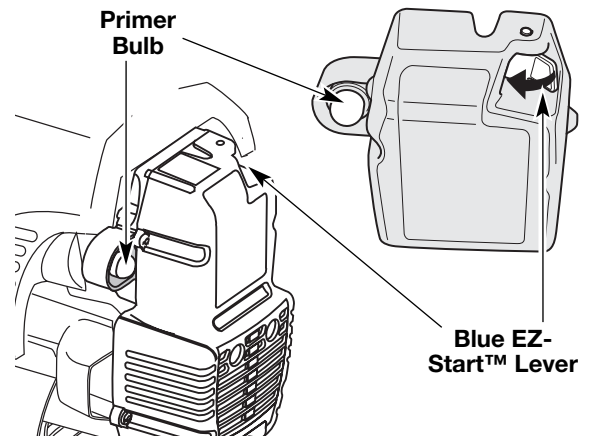

Fig. 10
3. Fully press and release the primer bulb 10 times, slowly. Some amount of **fuel should be visible in the primer bulb** and fuel lines (Fig. 10). If you can't see fuel in the bulb, press and release the bulb as many times as it takes before you can see fuel in it.
5. **Push the blue EZ-Start™ Lever towards the primer bulb** until it clicks and locks into place (Fig. 10).